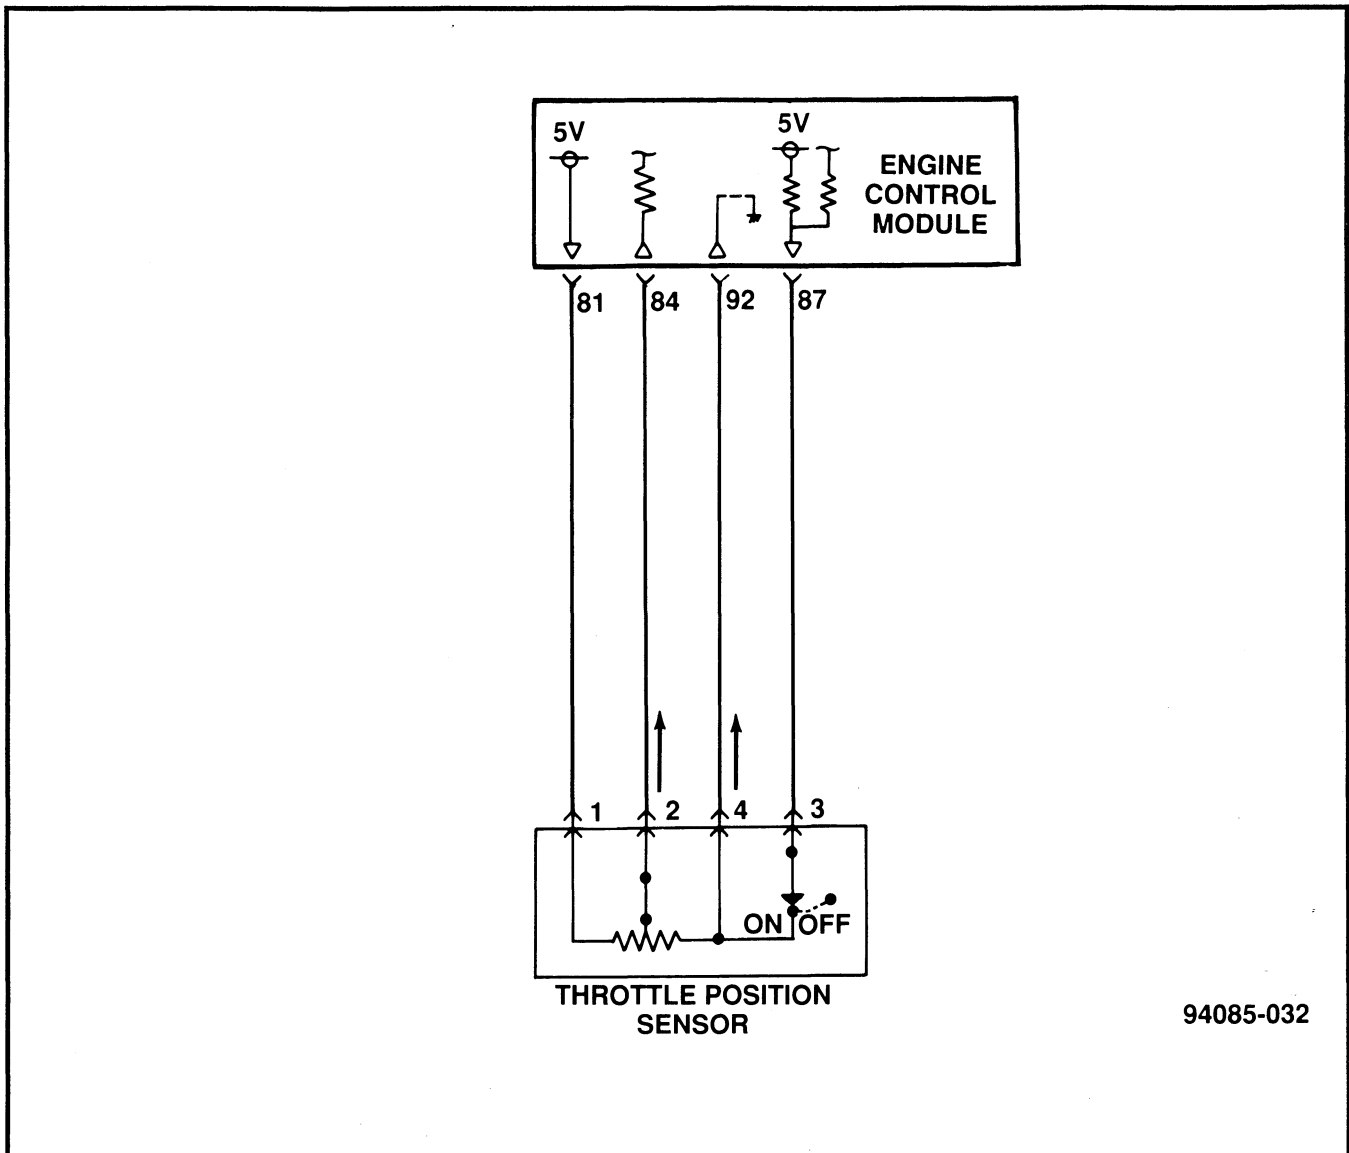

Figure 30 Throttle Position Sensor Circuit
The ECT sensor functions similarly to the IAT sensor. It uses a 2-way connector, and is fed 5 volts at the ECT sensor pin 2 (ECM pin 83, BK/WT). The 5 volts from the ECM is fed through a 2200 ohm resistor, and is also tied into a 39,000 ohm resistor to ground to make the signal more linear. The ground is supplied on ECT sensor pin 1 (BK) (fig. 30). The ECT sensor also affects radiator fan control. (See radiator fan control relays in the Output section.)
The TPS is a resistance strip with a "rake" that moves with the throttle shaft. The TPS output voltage varies depending upon the position of the rake on the resistance strip. The TPS uses a 4-way connector, and is fed 5 volts on pin 1 (DG/YL) from ECM pin 81. The TPS output voltage comes from pin 2 (BR/RD) of the TPS (ECM pin 84) which is connected to the rake. The output voltage is a 0-5 volt analog signal that varies with throttle opening. Closed throttle voltage is approximately 0.5 volt, and the voltage increases with throttle opening, up to approximately 4.5 volts at WOT. Ground is supplied on pin 4 of the the TPS (BK) (fig. 30). Pin 3 on the TPS is for the Closed Throttle Position switch (CTP), which is discussed later.